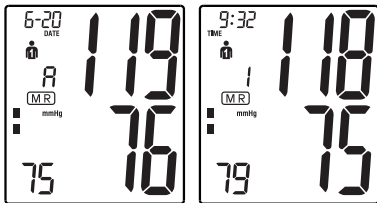

Fig 4
1) Memory browsing (MR)
- NS To access the memory resources, press the MEMORY button. The device will (M).
- NS After pressing the MEMORY button, the (M) last measurement is displayed.
- NS Pressing the MEMORY button again allows the user to view the measurements from the newest to the oldest (Figures 4 and 5).